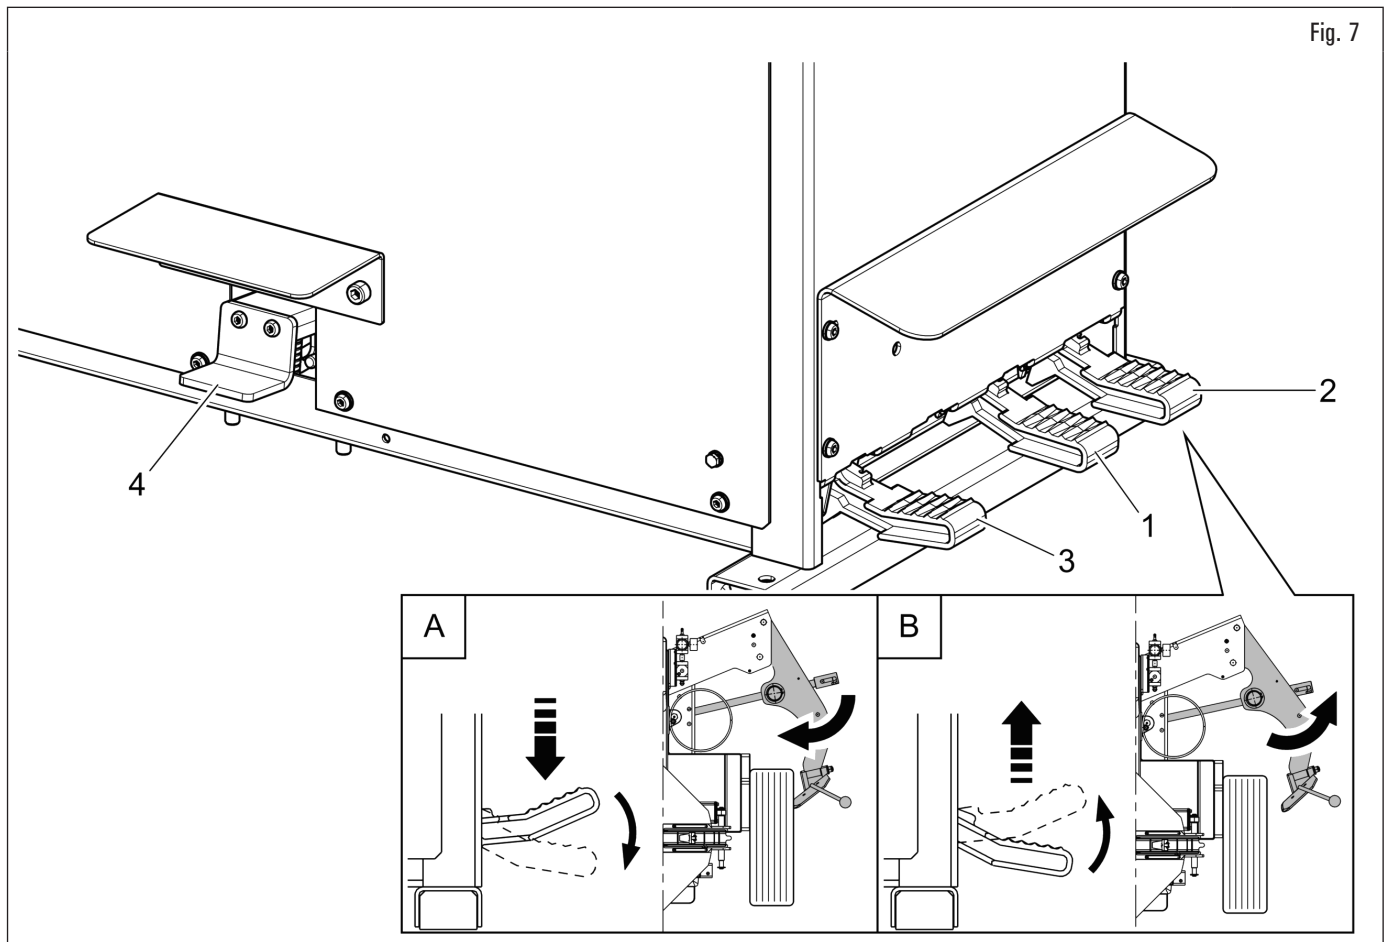

Fig. 7
“Pedal 1” (Fig. 7 ref. 1) opens and closes chuck locking jaws.
“Pedal 2” (Fig. 7 ref. 2) has 2 operative positions: when it is pressed downwards, the cylinder for bead breaking with lateral arm (A) is operated; when such pedal is released, the bead breaker arm is moved back to the initial position (open bead breaker) (B).
“Pedal 3” (Fig. 7 ref. 3) controls chuck’s plate rotation and has 3 stable positions:
Inflation “pedal 4” (Fig. 7 ref. 4), with hold-to-run control, delivers air at controlled pressure (max 4.2 ± 0.2 bar - 60 ± 3 psi).